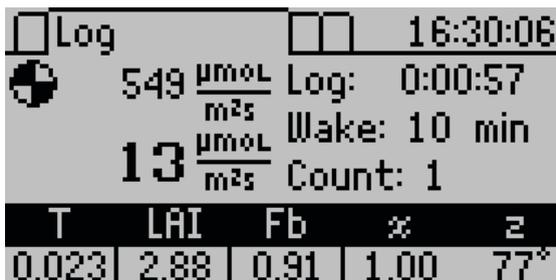

Figure 9 Log tab with measurements set every 1 min
3. To activate the logging mode, press **ENTER**. The screen will begin to return data (Figure 9).